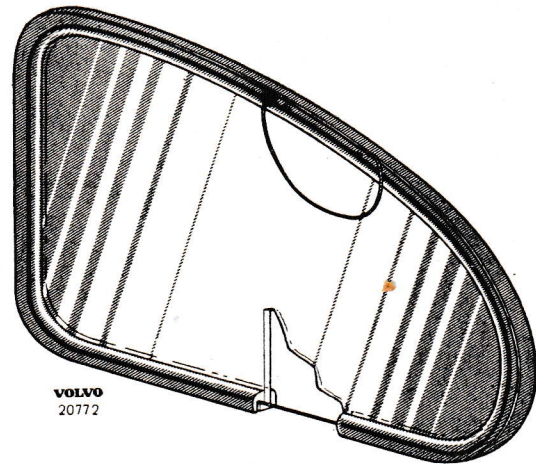
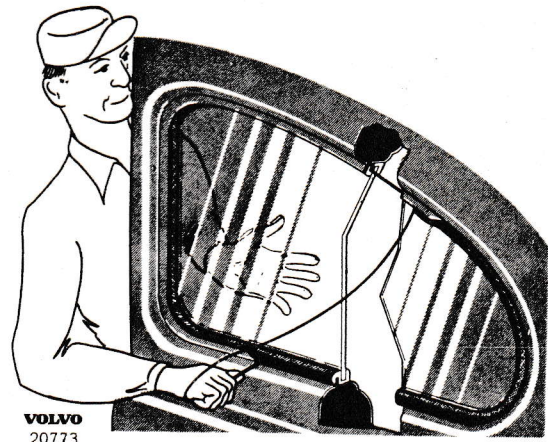

Fig. 34. Side window with cord.
Fig. 35. Fitting side window.
4. The pane is fitted by placing both it and the cord in the rubber weatherstrip as shown in Fig. 34. Hold the pane pressed against the opening and pull the cord, Fig. 35.